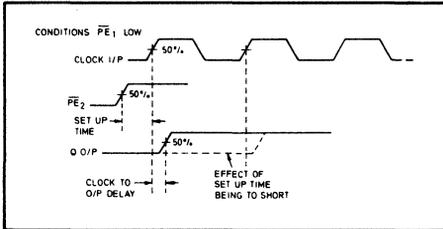

Fig. 3 Set-up timing diagram
- Set-up time is defined as the minimum time that can elapse between a L \rightarrow H transition of a control input and the next L \rightarrow H clock pulse transition to ensure that the $\bar{\tau}10$ mode is forced by that clock pulse (see Fig. 3).